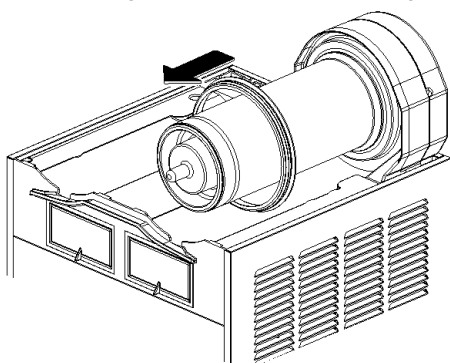

figure 11
- Remove the bowl gasket from its seat (see figure 11).